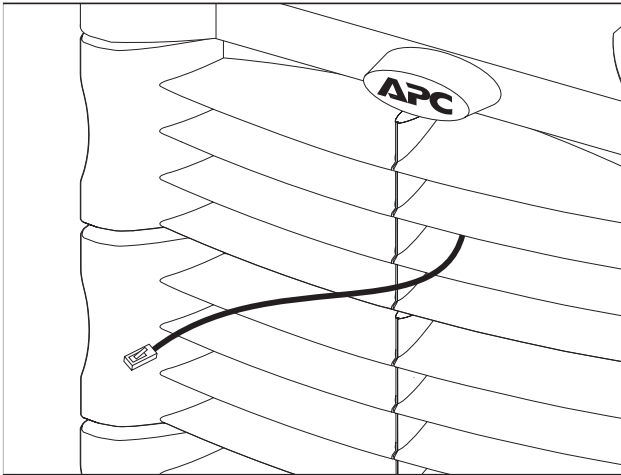

Fig 5-11 PowerView Cable Through The Top Grill Cover
2. Feed the end of the RJ45 cable through the center slot of the grill cover. Replace the grill cover. See figure 5-11.